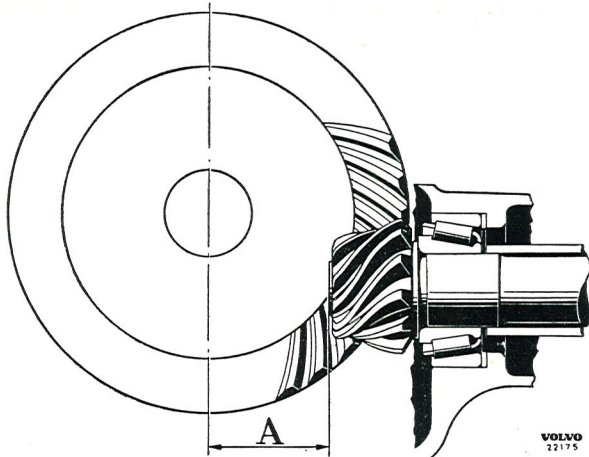
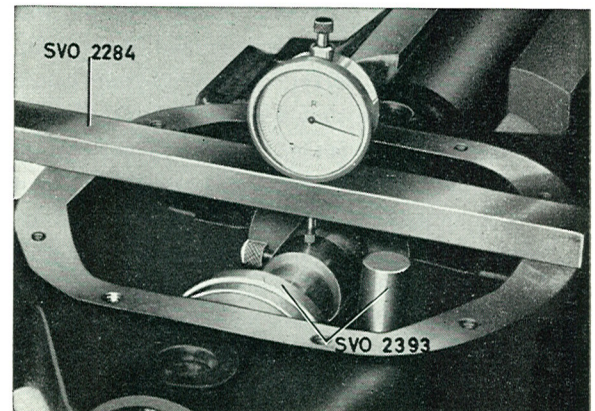
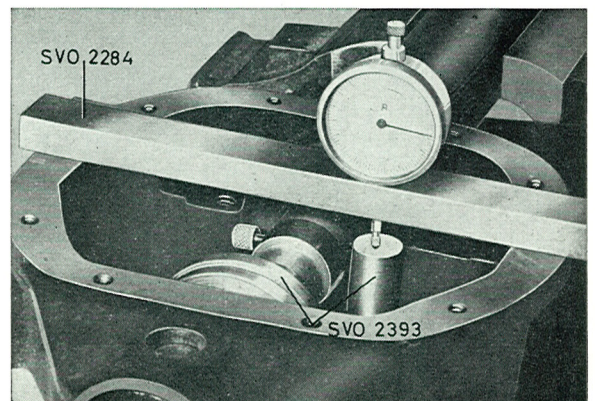

Fig. 4-106. Pinion location
Fig. 4-108. Zero-setting the indicator
Fig. 4-109. Measuring the pinion location
- The pinion should have a certain nominal measurement (A, Fig. 4-106) to the centre line of the crown wheel. Due to tolerances in the manufacturing, there are deviations from the nominal measurement.
pinion and the adjusting jig in the differential bearing position as shown in Fig. 4-106. Place the indicator retainer on the drive pinion carrier and zero-set the gauge against the adjusting jig, see Fig. 4-108. Then move the indicator retainer over so that the indicator comes against the pinion gauges, see Fig. 4-109.